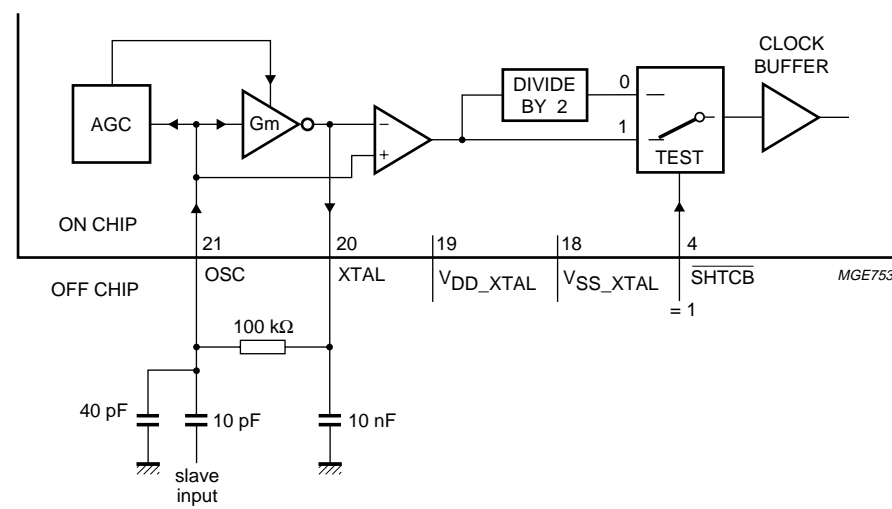

Fig.4 Block diagram slave oscillator circuit.
**The slave oscillator mode:** in this mode (see Fig.4), the oscillator circuit acts as a slave driven by a master system clock. The clock divider can be switched on or off using pin SHTCB. When the divider is not used, the duty cycle of the clock will depend on the master system clock duty cycle and the rising and falling edge times. This places a tolerance of 5% on the 50% duty cycle of the master system clock (see Chapter "AC characteristics").